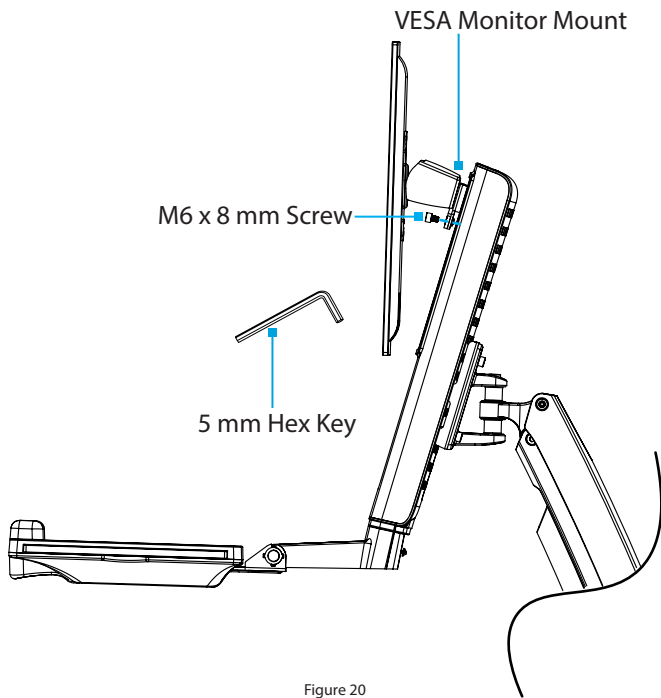

Figure 20
2. Insert the **M6 x 8 mm Screw** through the **Projection**, located on back of the **VESA Monitor Mount** and into the **Plate**, located on the **Column** and tighten, using the **5 mm Hex Key**. (Figure 20)